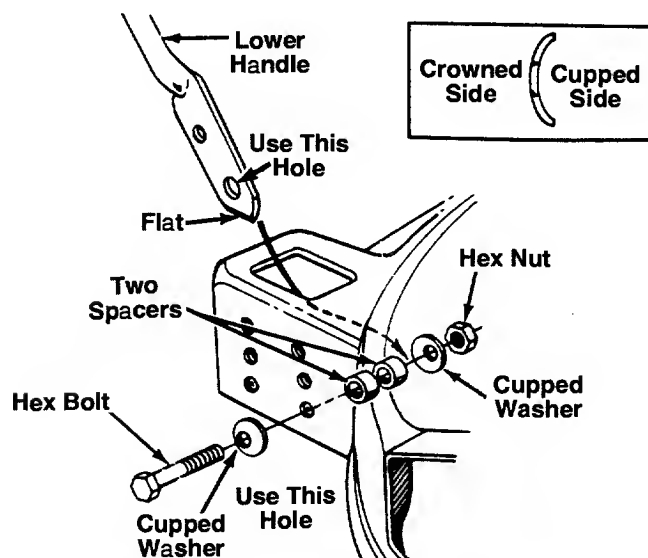

FIGURE 1B.—Models 050 thru 062 Shown
3. Using the inside set of holes in the rear of the deck, insert hex bolt through bottom hole as shown in figure 1B.